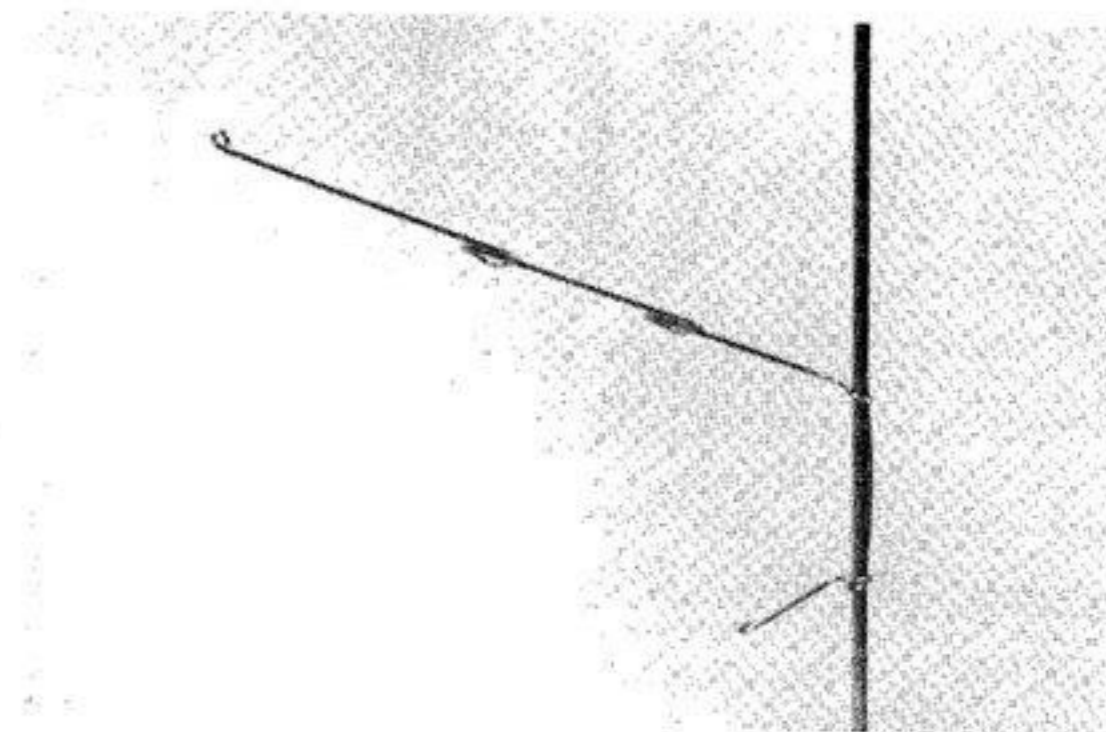

Fig. 16
11. Clip Yarn Guide Wire to rod about 6" to 8" from the top of the rod as shown in Fig. 16.